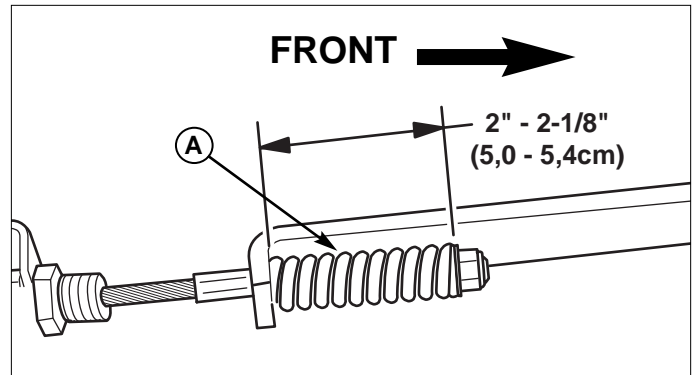

Figure 39. Parking Brake Adjustment
2. Locate the upper brake spring (A, Figure 39).